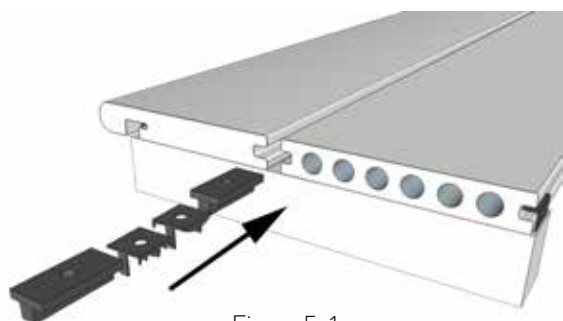

Figure 5-1
- 6 Install the fastener between the two boards of the step as shown in Figures 5-1 and 5-2: